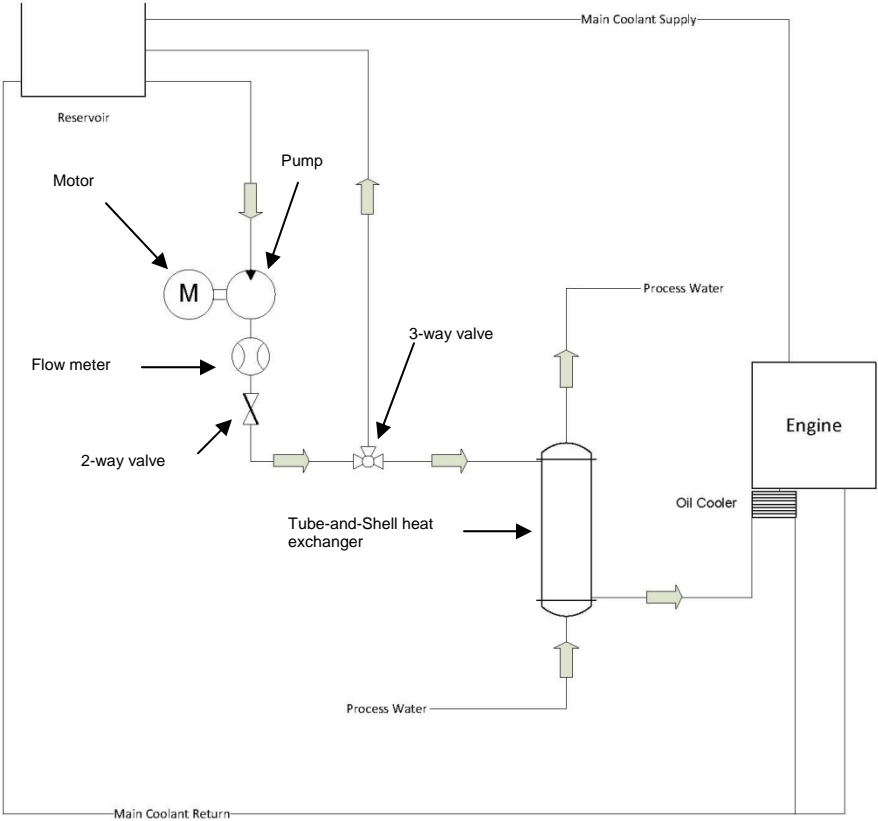

Fig. A15.1 Typical Engine Oil Cooling System Schematic
6.10 *Engine Oil-Cooling System*--The system consists of an oil filter adapter, engine-mounted oil cooler, and gaskets as specified in the Engine Assembly Manual, Section 8 Sheet 3 & 3a and a shell-and-tube heat exchanger. The engine oil-cooling system uses engine coolant pumped from the Fluid Conditioning Module through a three-way control valve to the oil cooler circuit which contains a heat exchanger prior to the engine-mounted oil cooler. To maintain the specified oil temperature of 150 °C at the oil filter adapter, the three-way control valve varies the coolant flow as necessary through the oil cooler circuit. The heat exchanger in the oil cooler coolant circuit is a tube-and-shell style and will use process water as the cooling media (See Fig. A15.1). When testing high oxidation-sensitive oils, the oil cooling system may go into a bypass mode, causing the engine-mounted oil cooler to be bypassed. In this condition, the TMC may allow engineering judgment for the oil temperature Quality Index on reference oil tests.